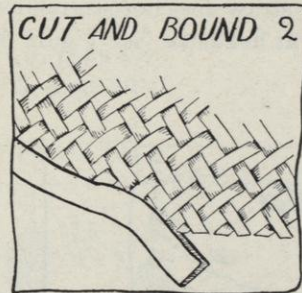

FIG. 2.
- (2) If the edge is cut and bound, follow Sections 4, 5, and 6 *d* and *e* (pages 57 and 58). (See Figure 2.)